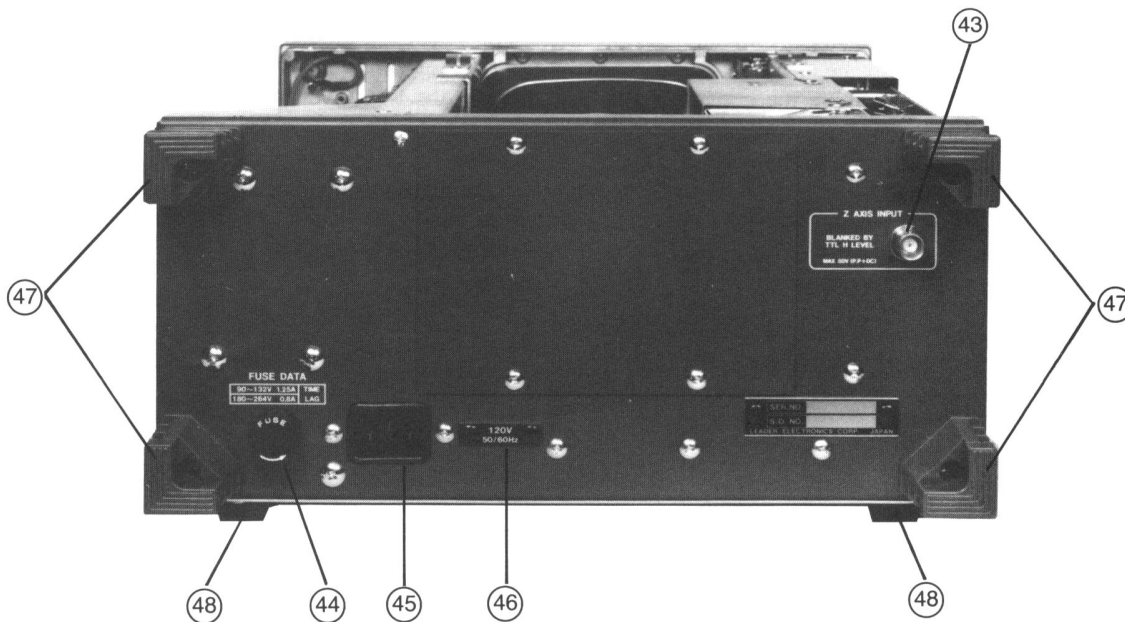

Figure 2-4.
Refer to Figure 2-4 for references (43) to (48).